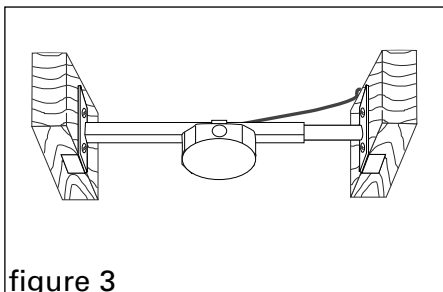

figure 3
3. If you are **not** installing the fan at this time, install mounting hardware (to prevent it from being misplaced), tuck wire into box and replace Saf-T-Cap® (figure 3). Saf-T-Cap® protects bolts and wiring during painting and sheetrocking.